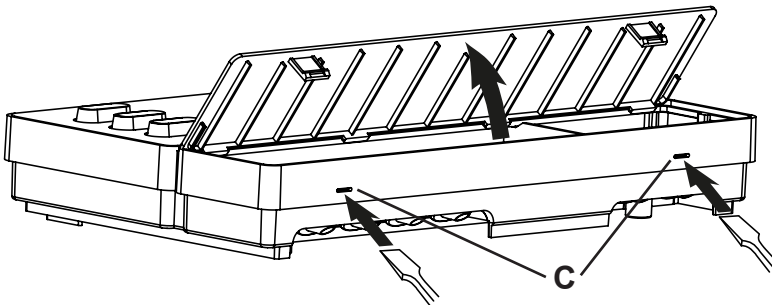

Fig.2 Removing the cover from the housing
2. Press the clip locks **C** in lightly using a screwdriver and remove the cover from the housing (see **Fig.2**).